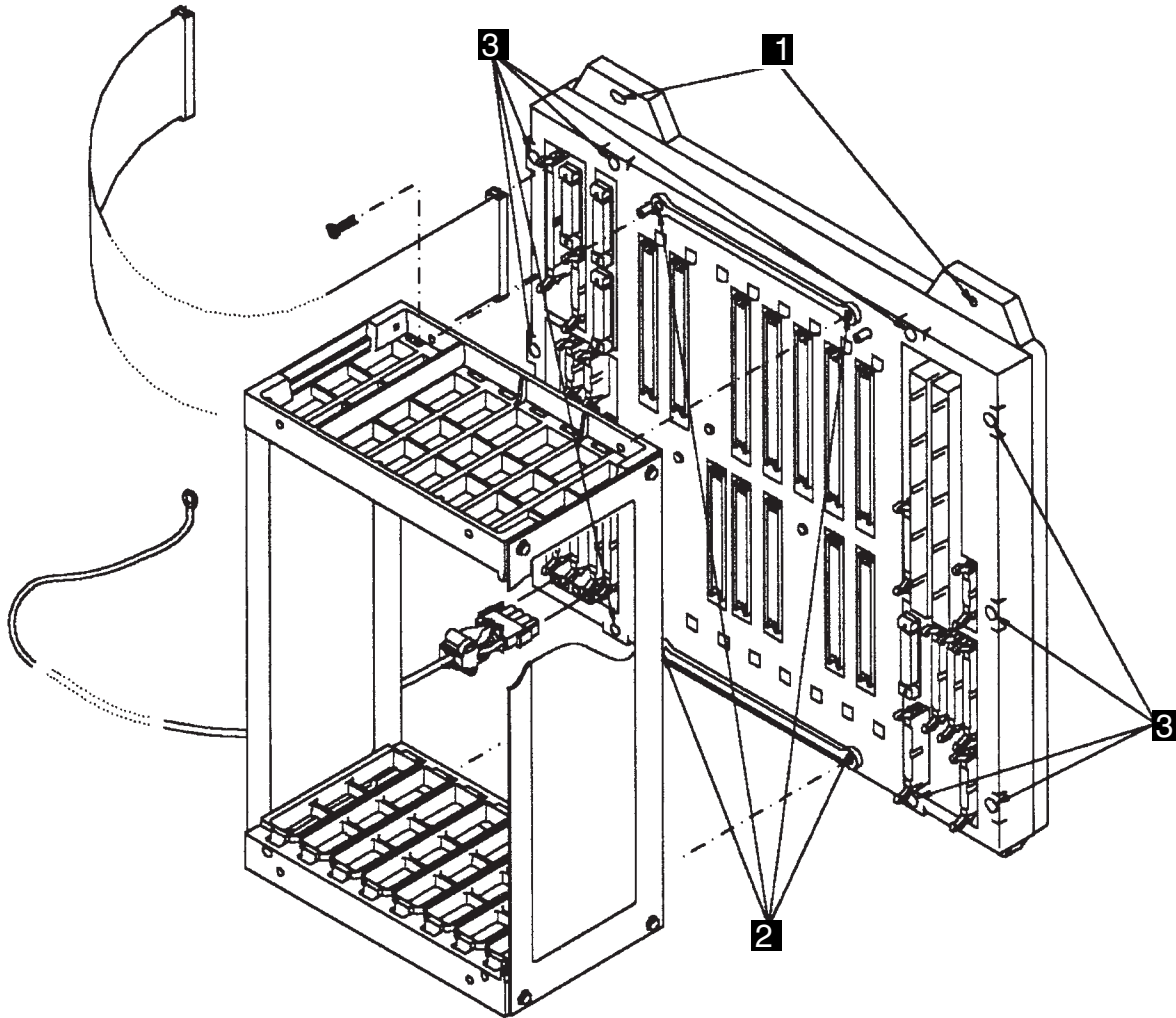

Figure 4-147. MOSS Board and Card Rail Assemblies
8. Refer to Figure 4-147.
2. Refer to Figure 4-147 on page 4-160.